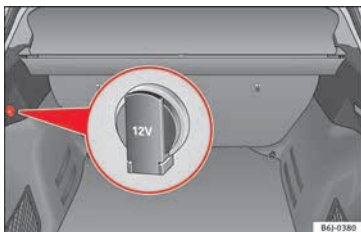

Fig. 155 Detailed view of the side trim in the luggage compartment: 12 volt socket
- Lift the power socket cover » **Fig. 155**.